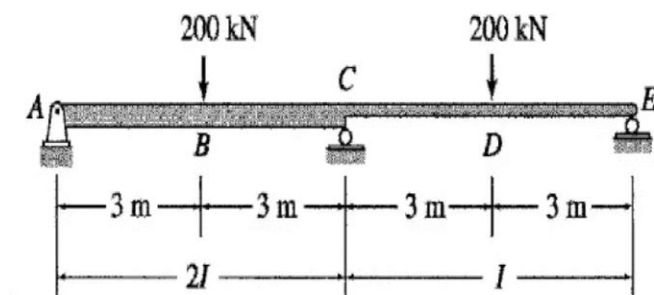

Figure 4
- 5 Analyze the continuous beam shown in figure 4 using moment distribution method and draw